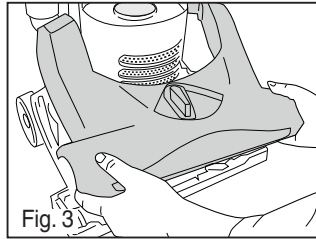

Fig. 3
- 3) Lift off brush roll cover. (Fig. 3).
- 7) Replace brush roll cover (Fig. 3).
- 3) **Hose connector** – remove dust cup and remove debris from hose connector opening. If still blocked, remove screw  from hose connector and remove blockage (Fig. 3).